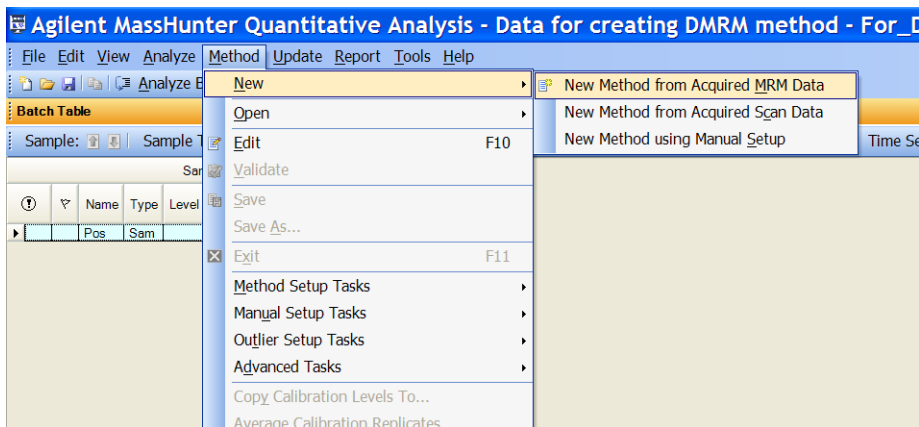

Figure 25 New Method from Acquired MRM Data selected
- a** Click **Method > New > New Method from Acquired MRM Data**. See Figure 25.